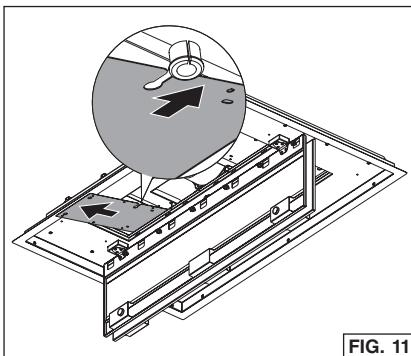
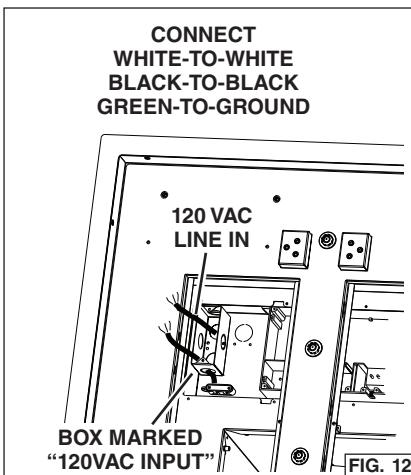

FIG. 11
FIG. 12
3. From the room interior, pull down both closure panels. Fig. 11.
4. Remove (4) screws from the electrical compartment access panel. Slide the panel sideways to expose the electrical wiring box.
5. From the electrical box marked "120 VAC Inlet", remove (2) screws that secure the cover to the metal wiring box. Fig. 12.
9. Replace the electrical compartments access panel and (4) screws.